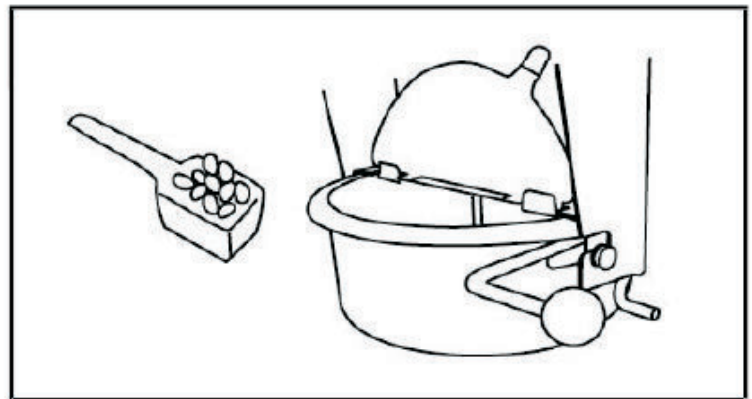

Fig. 2
7. Next pour popcorn and seasoning from Gourmet Tri-Pak pouch into pre-heated oil. (Fig. 2) If using bulk kernels, measure the amount of corn by using the measuring scoop provided. Use one scoop per batch. Open the lid and add the popcorn. **Caution:** Lid is hot; we recommend wearing oven mitts or potholders. Close lid.